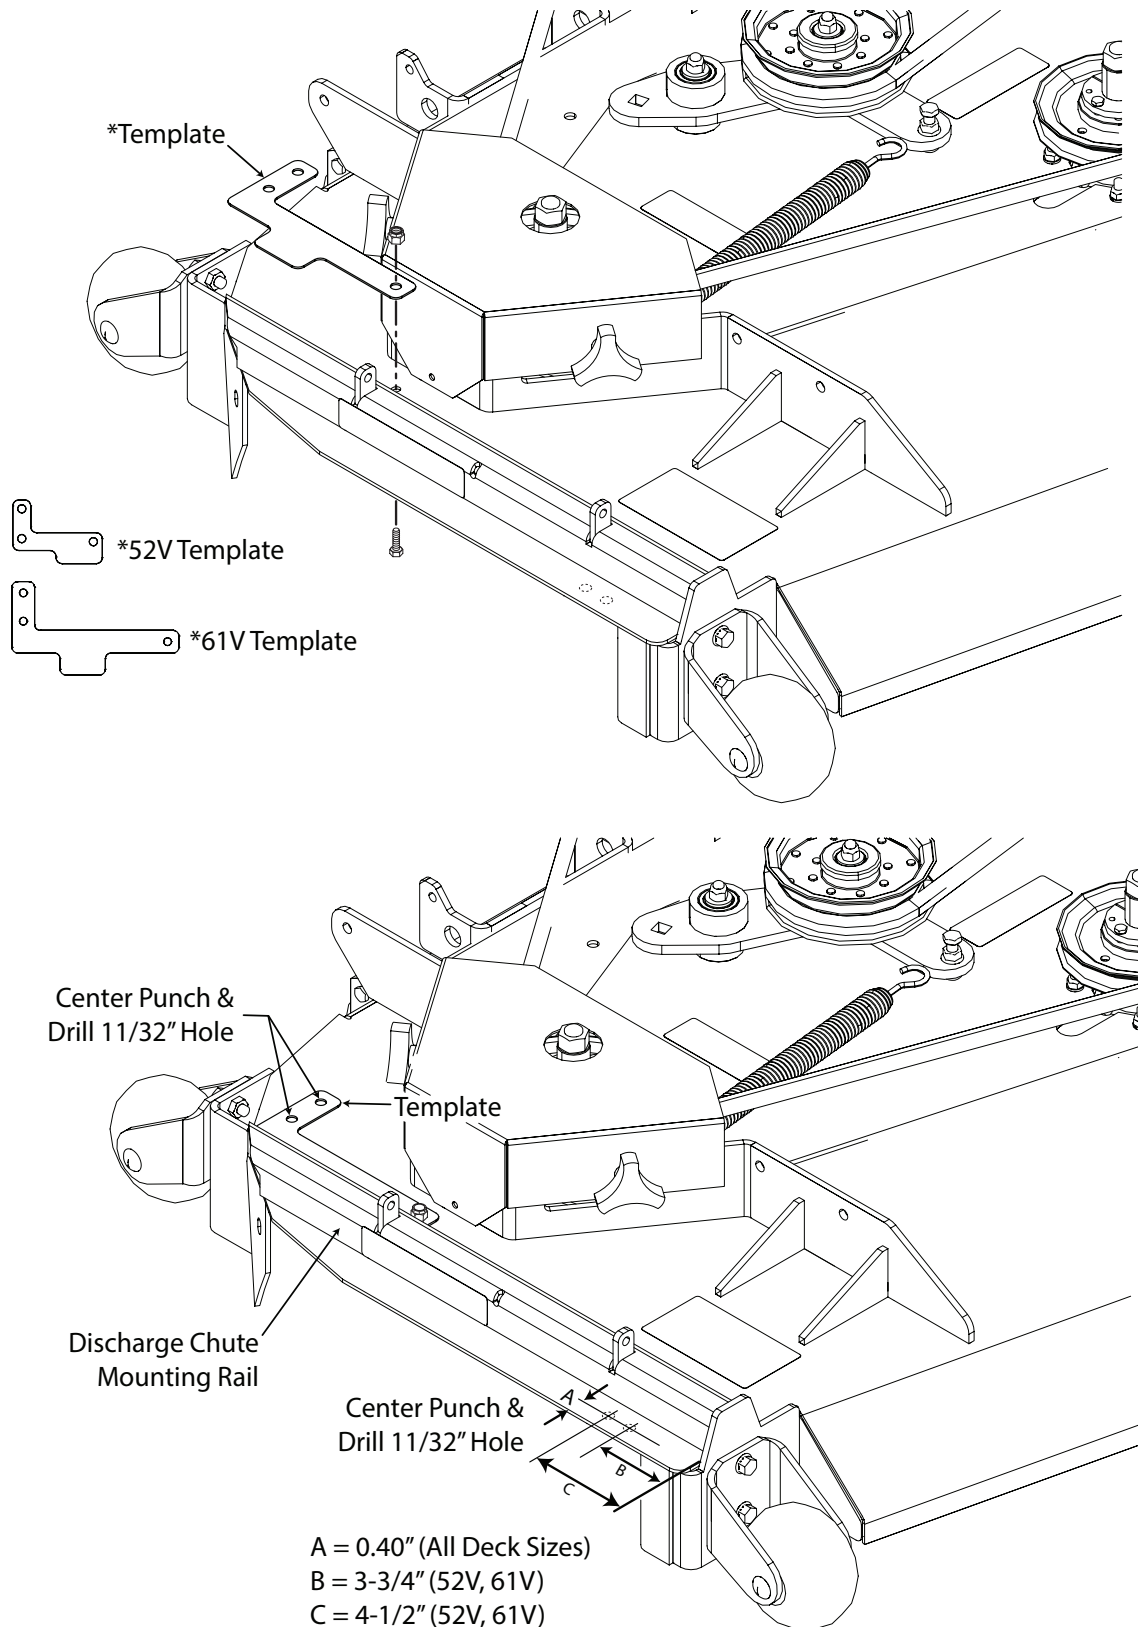

Figure 3-51. Locating and Drilling the Mounting Holes for SVRII-52V/61V
10. Install one (1) 5/16-18 x 3/4" bolt and one (1) 5/16-18 elastic stop nut. Do not tighten the hardware.
11. Install the template to locate the mounting holes for the lever assembly. Secure to the cutter deck using the turbo baffle mounting hardware removed in step 5. See Figure 3-51, Page 33.
12. Hold the template against the discharge chute mounting rail and tighten the hardware. See Figure 3-51, Page 33,
13. Center punch and drill the mounting holes using an 11/32" drill bit. See Figure 3-51, Page 33.
14. Carefully lay out the remaining mounting holes for the front hinge bracket in the cutter deck. See Figure 3-51, Page 33.